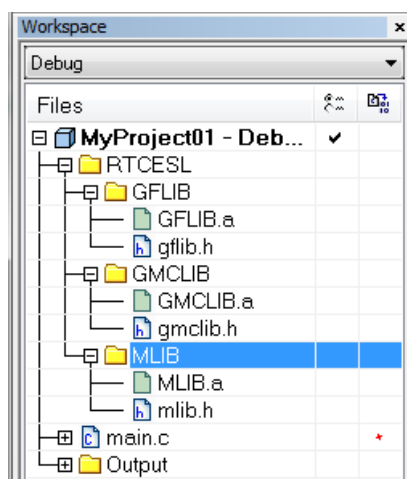

Figure 1-45. Project workspace
4. Click on the newly created node MLIB, and go to the main menu Project > Add Files... See Figure 1-45.
15. Now you will see the files added in the workspace. See Figure 1-45.